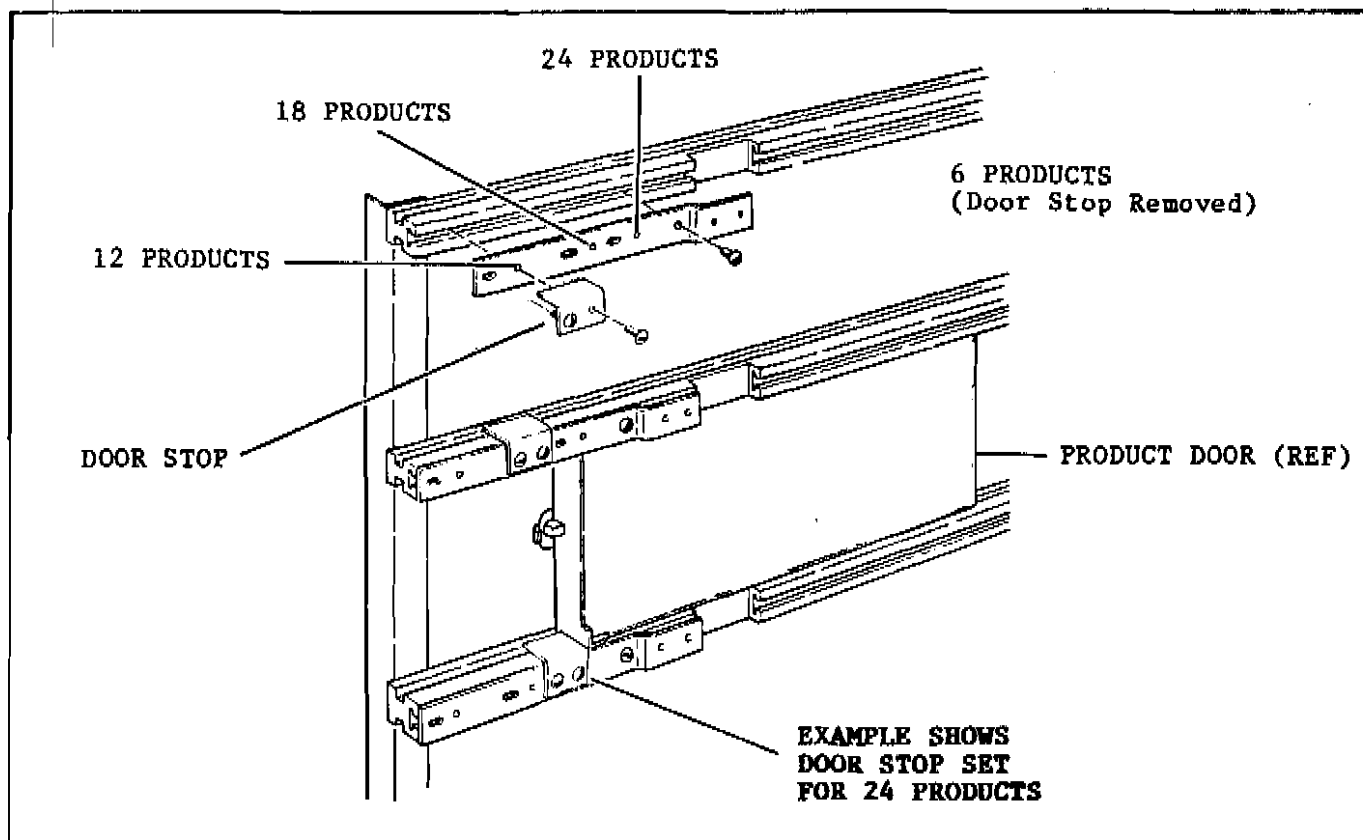

Figure 3-2. Product Door Stop Adjustment
- C. Adjust the door stop(s) as necessary, see figure 3-2.